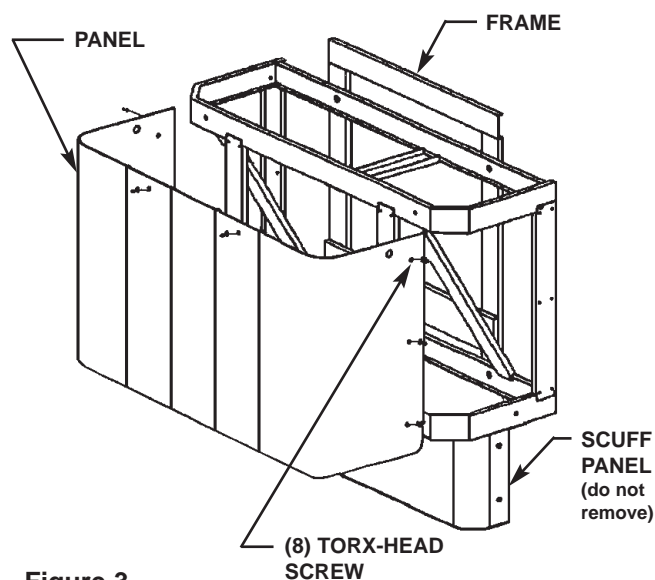

Figure 3
1. Remove the eight Torx-head screws securing the panel to the frame, and remove the panel (see Figure 3).
3. After testing is complete, reinstall panel to frame. Fasten panel with eight Torx-head screws provided (see Figure 3 on page 8).